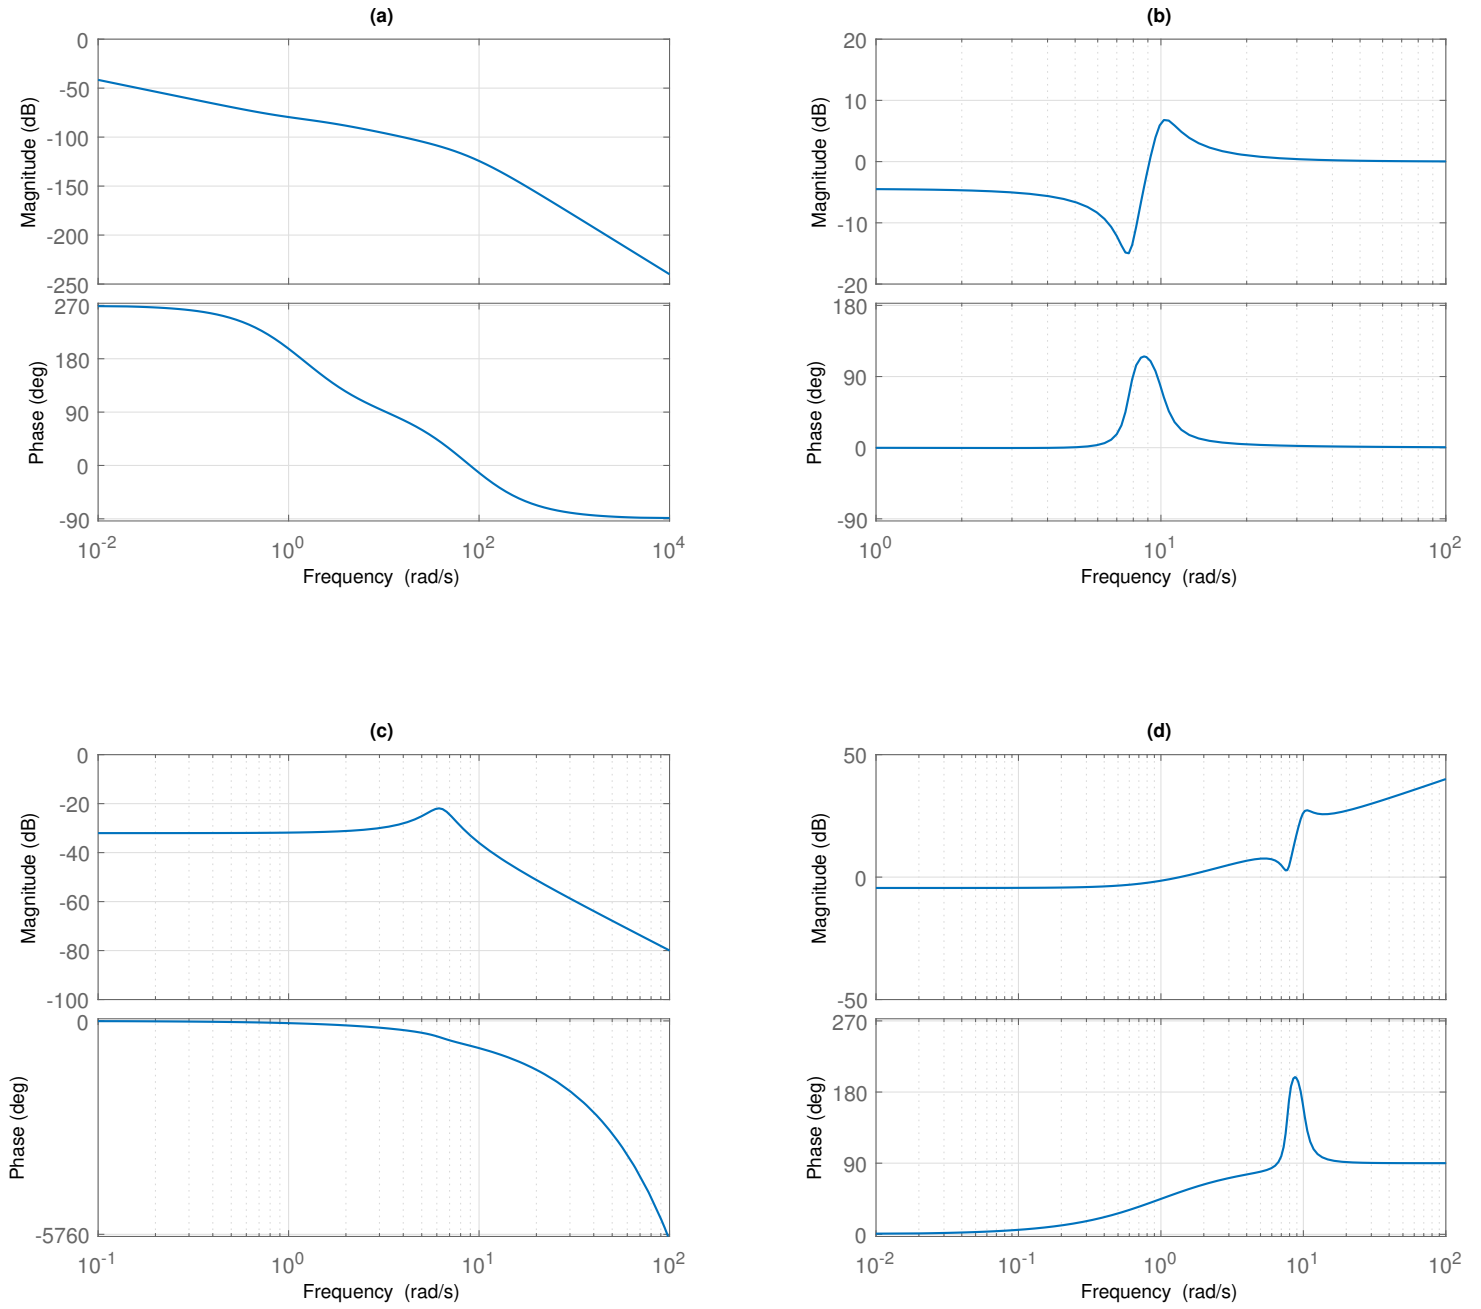

Figure 5: Frequency response of an unknown plants
6. Figure 5 illustrates the frequency response of unknown systems. Verify if the system is minimum phase or not. Justify your answer.